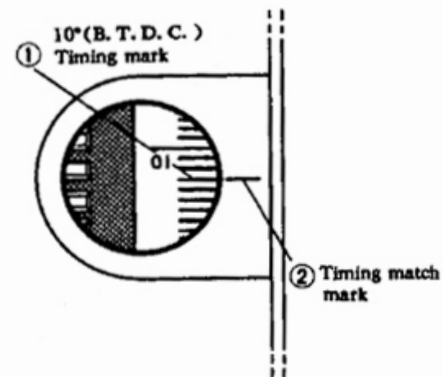

Fig. 8-17
- 1) Turn over crankshaft in normal direction to index the (10° B. T. D. C.) timing mark ① to the timing match mark ②. The 10° mark is the one provided on flywheel. See Fig. 8-17. Normal direction of crankshaft is clockwise as viewed from front side.